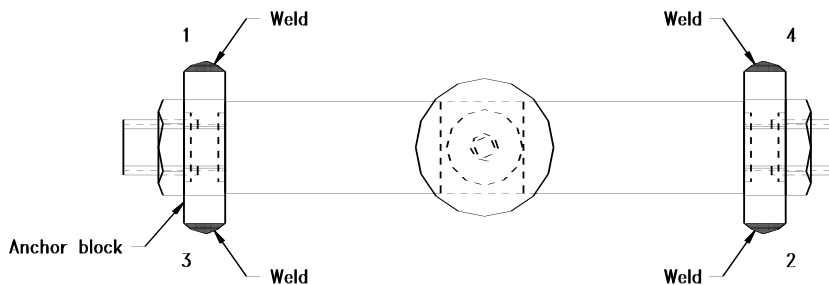

Figure 4: Welding sequence for anchor blocks
Welding is the standard technique for mounting the SM-5B gauges. First, install the anchor blocks on the spacer bar as described before. The spacer bar with anchor blocks is then firmly held against the surface to which the blocks are to be welded. First, tack all four (4) edges, avoiding excessive heat. Then, firmly weld in place as in the sequence shown in Figure 4. Tap each block lightly after they are welded in place.